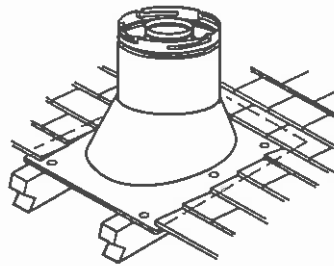

FIGURE 20
I. Install the roof flashing - Extend the vent sections through the roof structure. Install the roof flashing over the vent section and position such that the vent column rises vertically (use carpenter's level) (*Figure 20*). Nail along perimeter to secure flashing or adjust roofing to overlap the flashing edges at top and sides only and trim where necessary. Seal the top and both sides of the flashing with waterproof caulking.